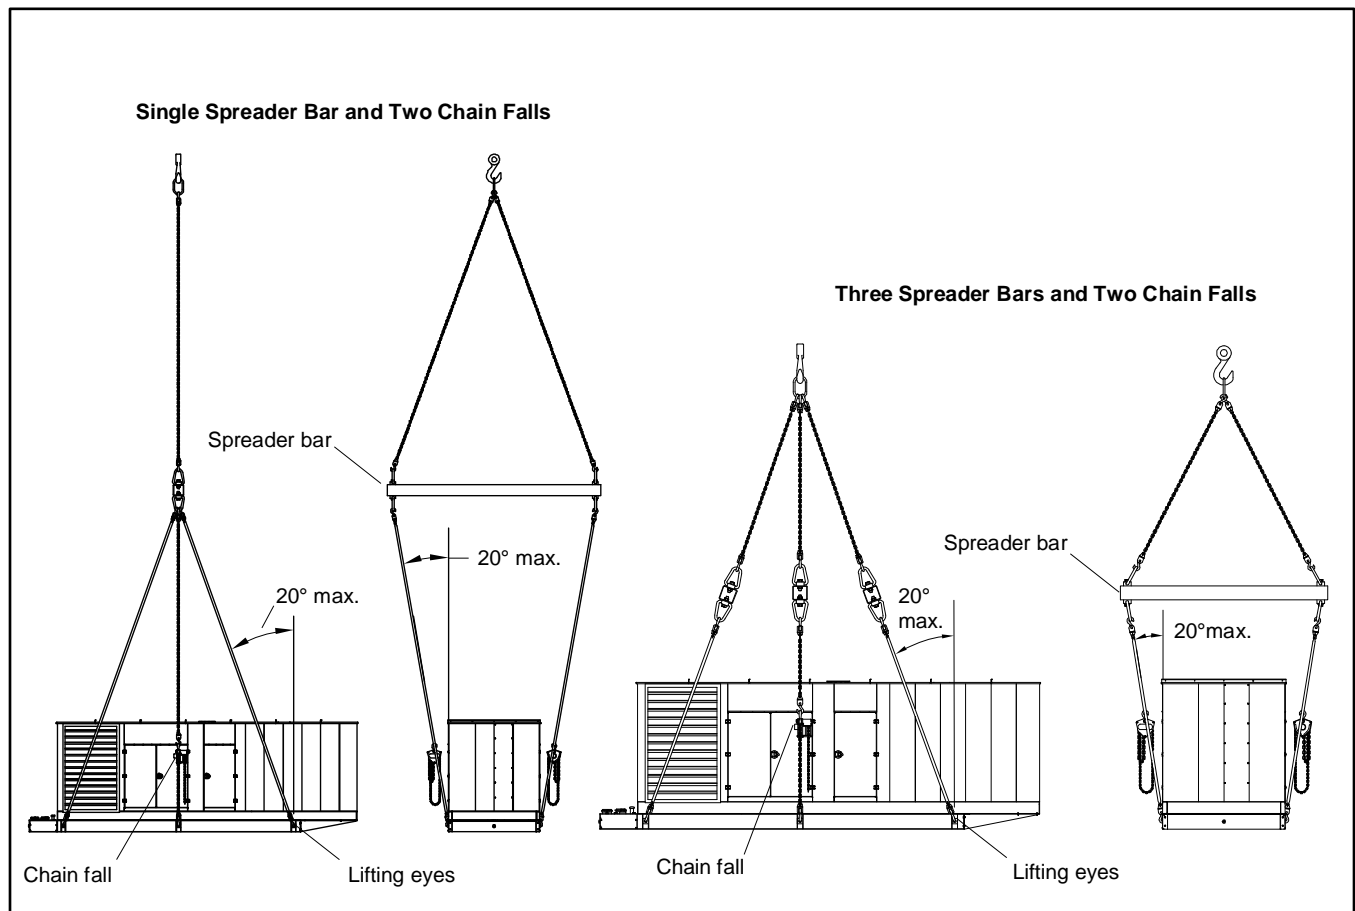

Figure 10 Six Eye Lifting Methods
- Install a pair of outer slings to the maximum angle as shown in Figure 10.